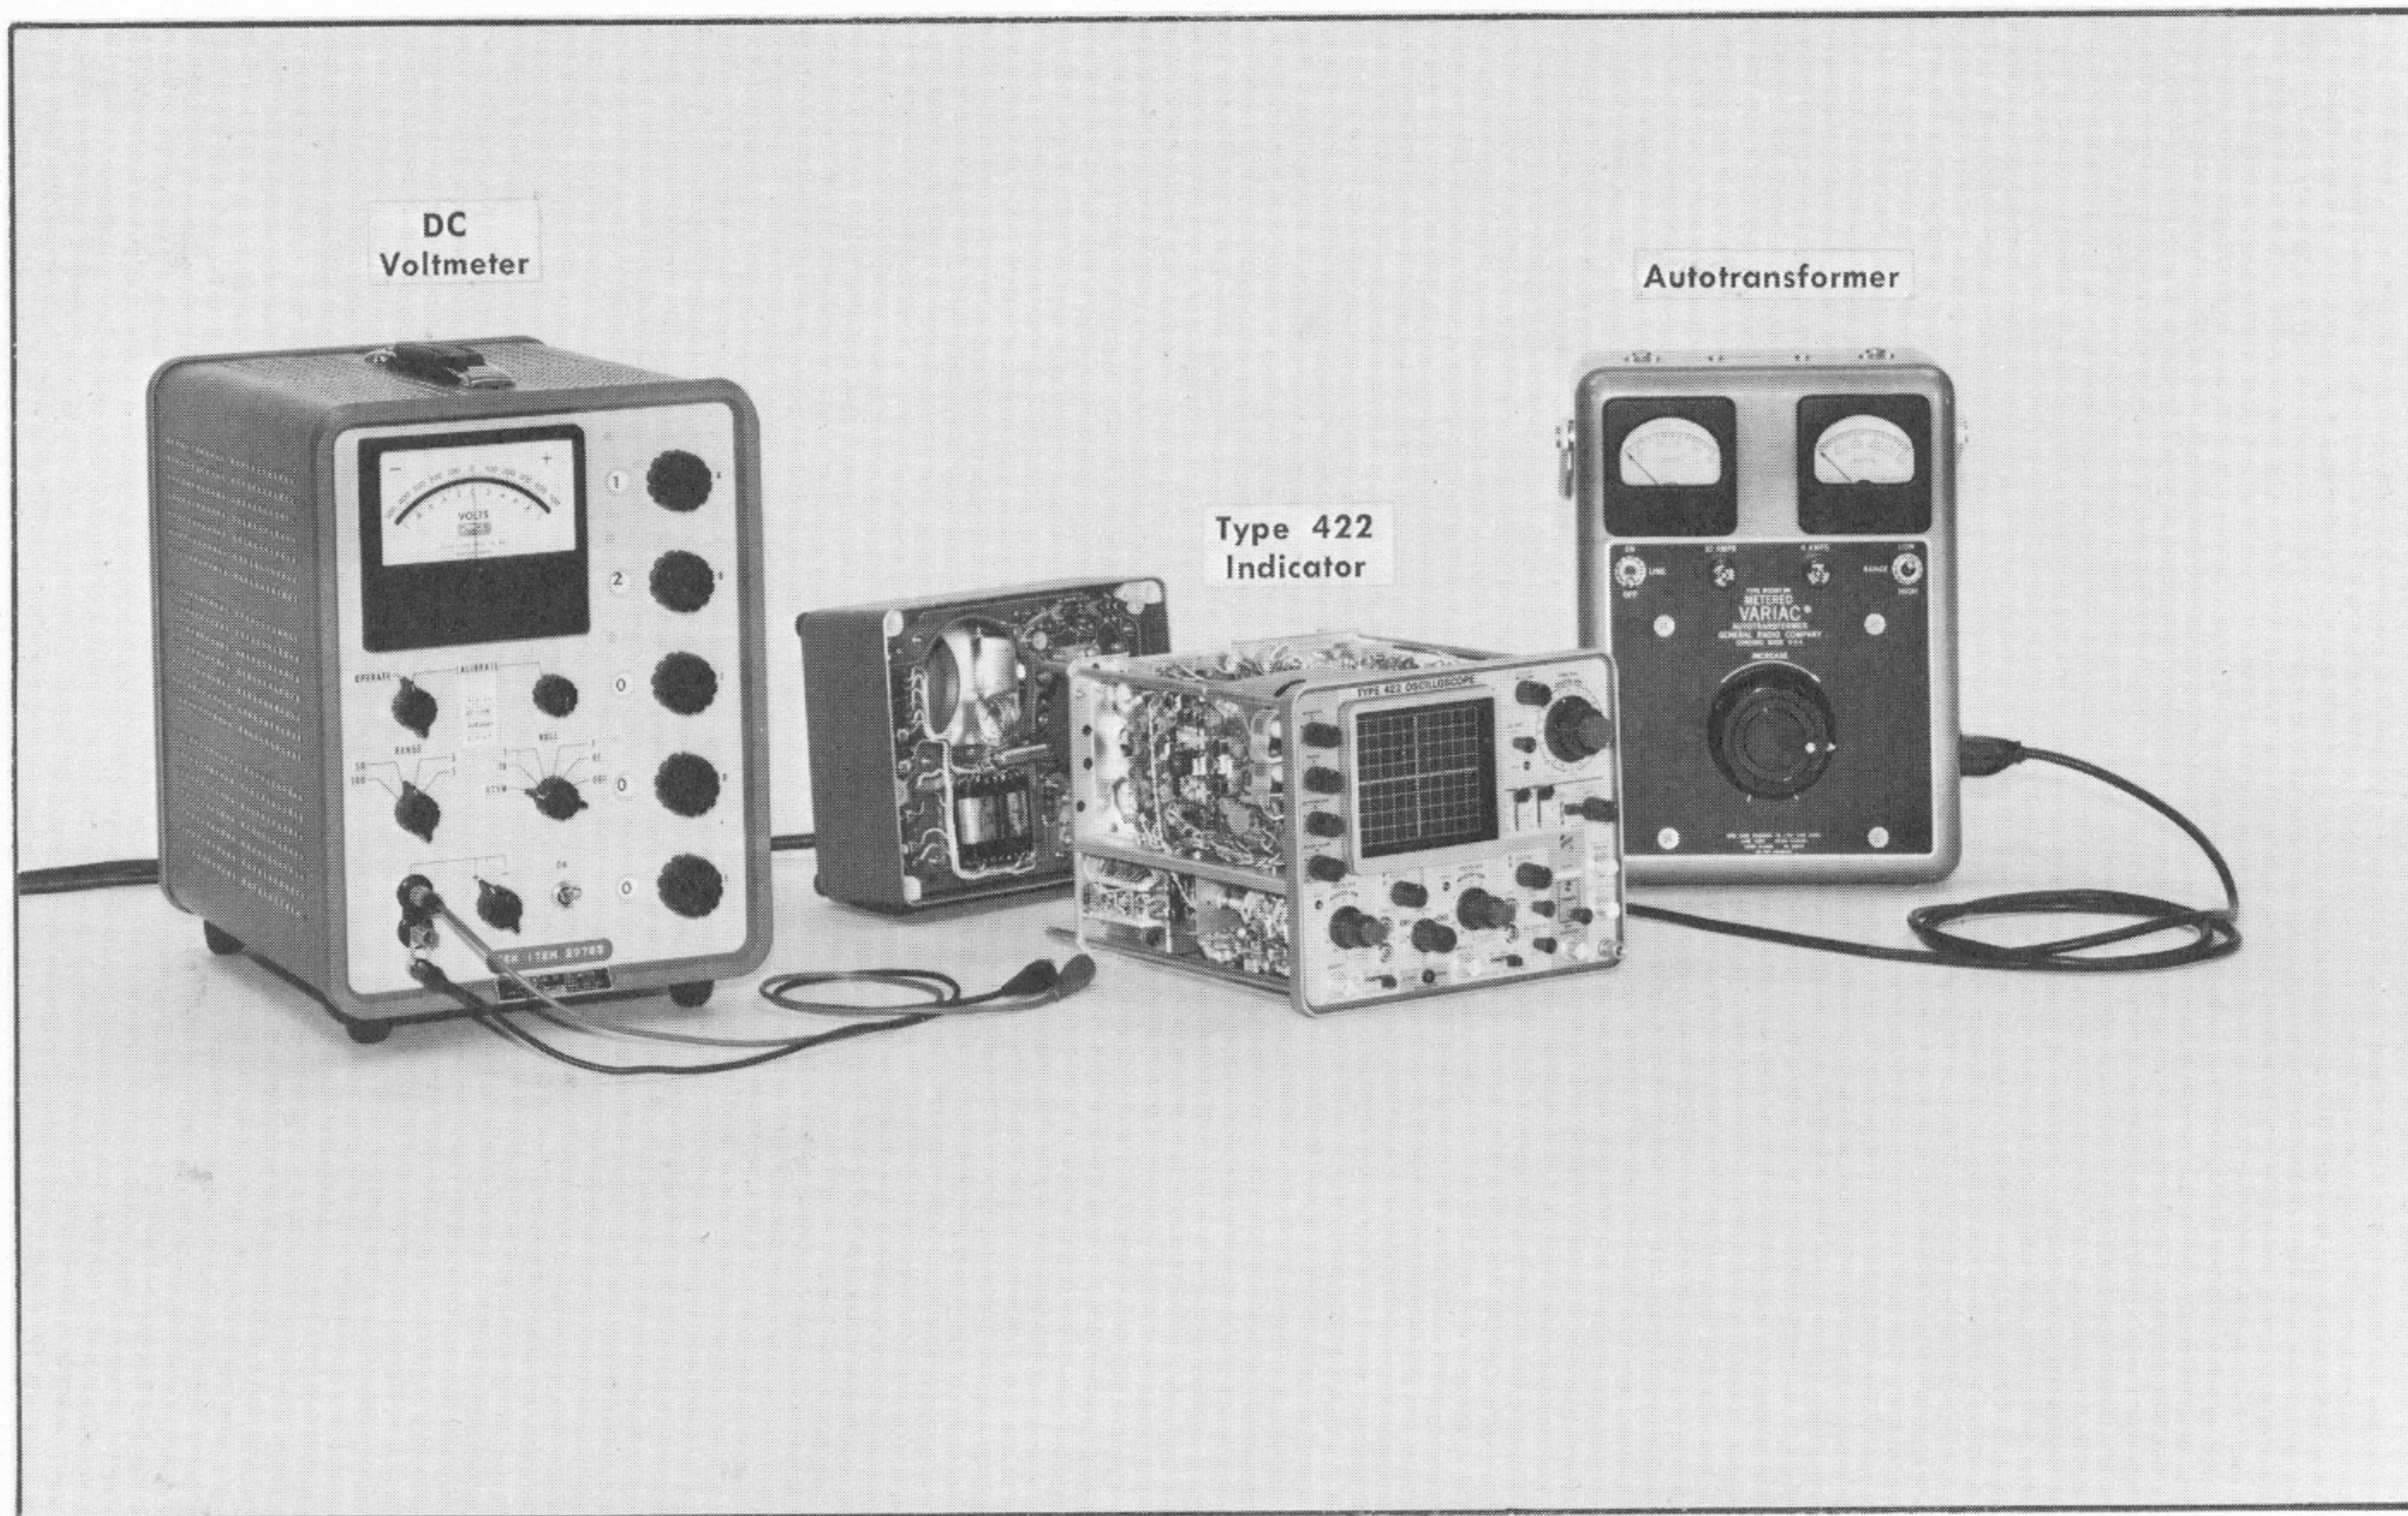

Fig. 5-2. Test equipment setup for steps 1 through 3.
1. Adjust —12-Volt Power Supply ①
- a. Test equipment setup is shown in Fig. 5-2.